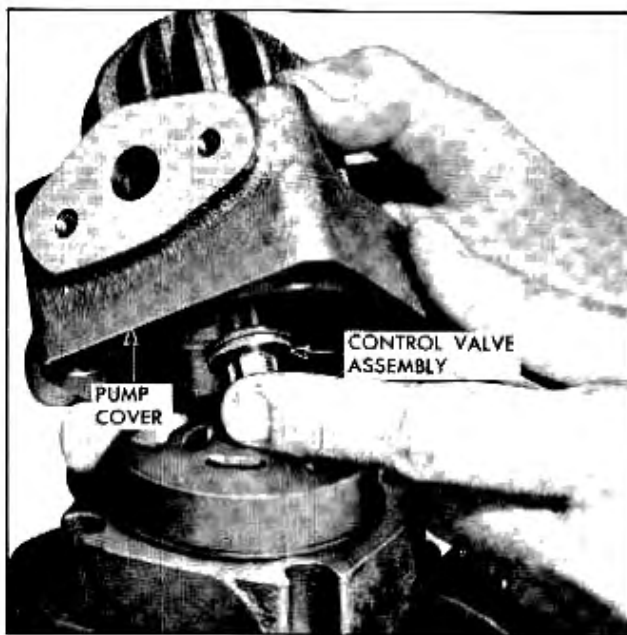

Fig. 9-72 Removing Pump Cover and Control Valve Assembly
7. Lift off pump cover with flow control valve assembly and spring. Be especially careful to insure that flow control assembly does not drop out (Fig. 9-72).